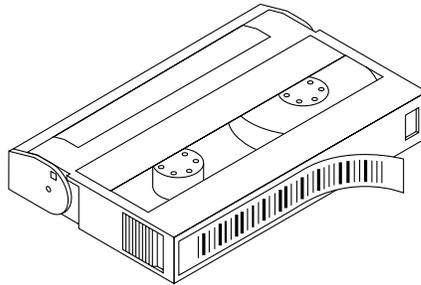

FIGURE 2-5 Placing Bar Code Labels
- **Center the label within the area on the edge of the cartridge (FIGURE 2-5).**